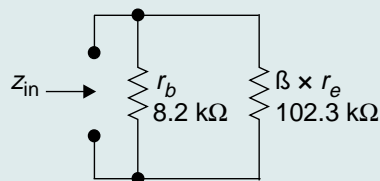

FIGURE 5-9 Simplified equivalent circuit
**Step 7.** Draw the simplified equivalent circuit showing the base signal resistance in parallel with the emitter path signal resistance. The equivalent circuit is shown in Figure 5-9.